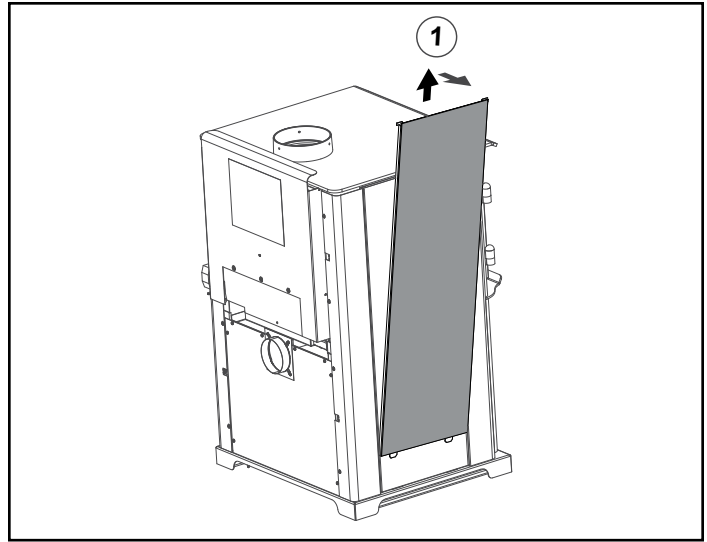

Figure 17.4
- Remove solid panel from side by lifting up and pulling away from appliance (use a flat tool to pry from bottom if needed) (**Figure 17.4**).
- Remove tile frame from side by lifting up and pulling away from appliance (**Figure 17.4 reference solid side panel removal**).